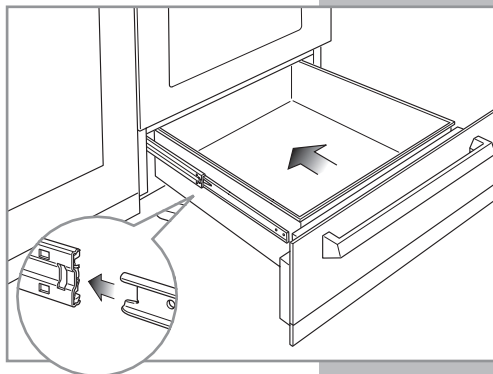

Fig. 53
Fitting the drawer (Fig. 53)
1. Insert the drawer guides into the range guides (fig. 53).